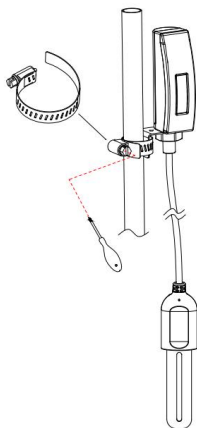
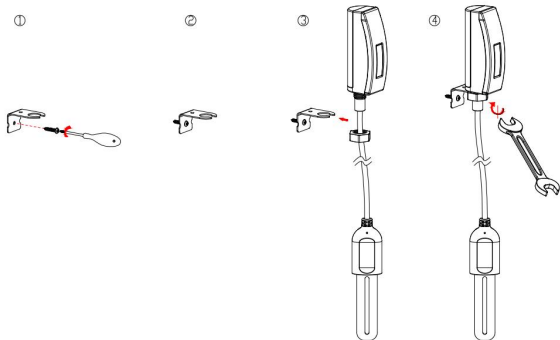

Figure 26
Figure 27
4. Fix the sensor by using the fix bracket and hose clamp, like Figure 26, or using the fix bracket and stainless steel screw, like Figure 27.